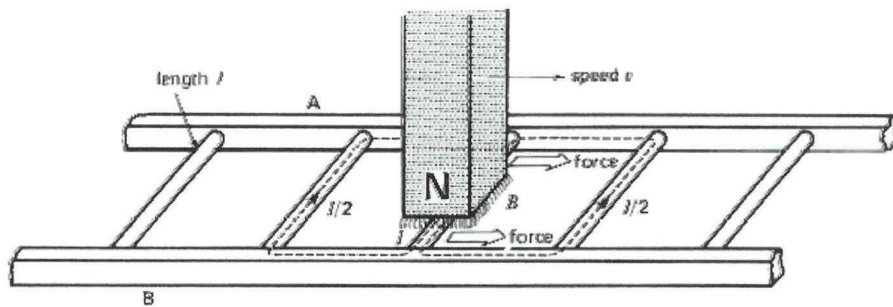

Figure Q4(a)
- Q4** (a) Using **Figure Q4(a)**, explain the operation on an AC induction motor. (6 marks)